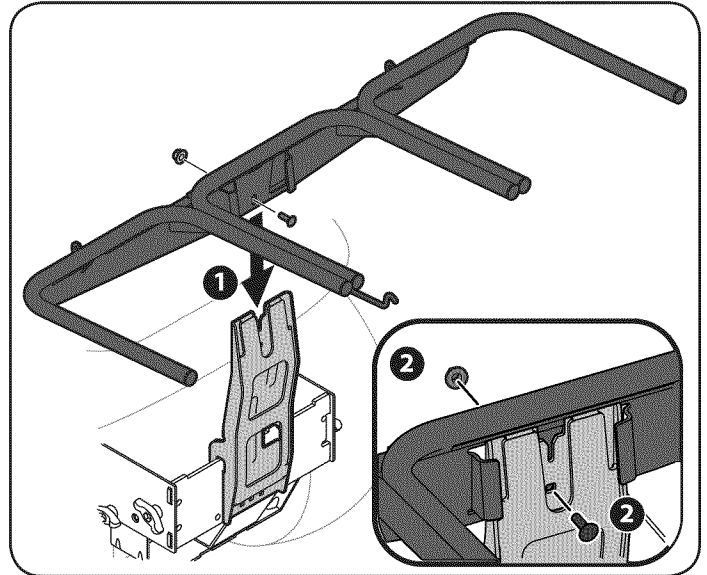

Figure 6
6. Using a 1/2" wrench or socket, secure the hanger assembly to the upright mounting assembly using another (710-0276) carriage bolt from hardware pack 689-00328A and flange lock nut packed in with the upright mounting bracket. See Figure 6.